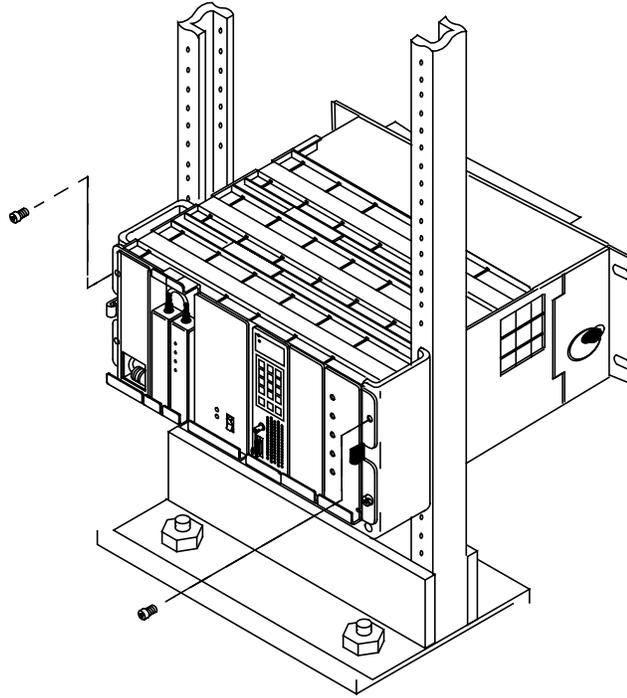

Figure 4-8: Attaching the Screws to the Standard Power Cabinet
- b. Insert four M6x1.0 tapping screws (two on each side), using a TORX screwdriver and TX 30 bit (see Figure 4-8).